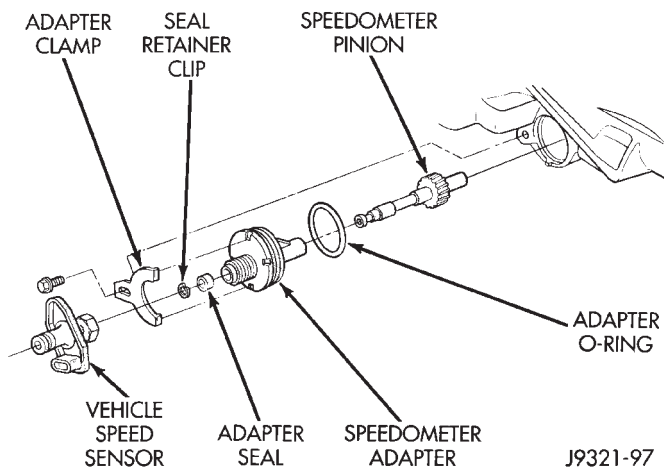

Fig. 9 Speedometer Components
(1) Raise vehicle.
(2) Disconnect vehicle speed sensor wires and disconnect speedometer cable, if equipped.
(3) Remove vehicle speed sensor from speedometer adapter (Fig. 9).